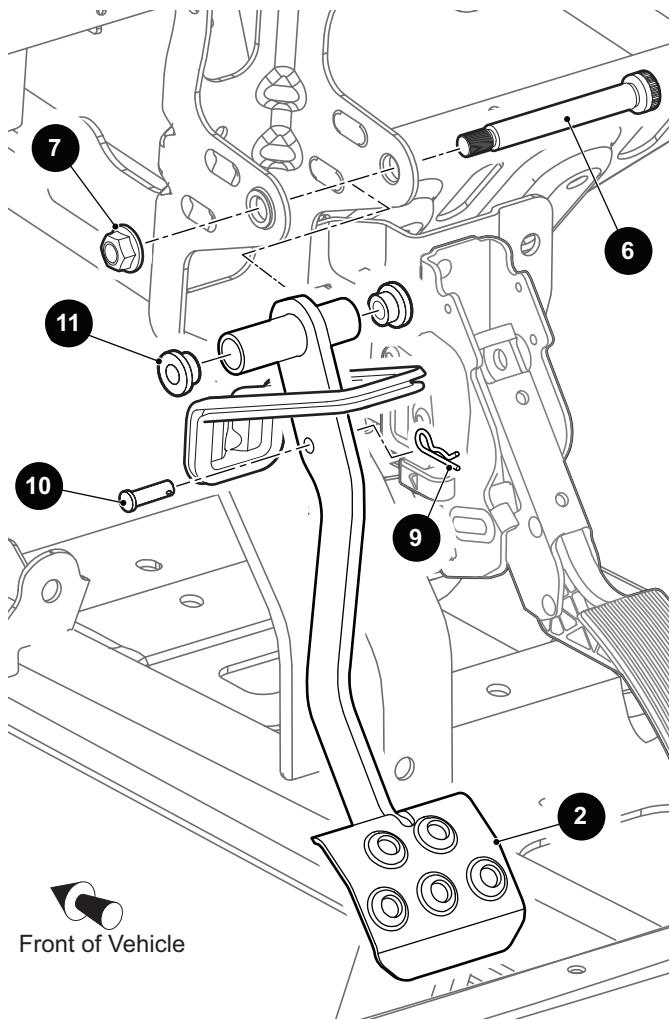

Fig. 10 Brake Pedal Removal
2. Remove pivot bolt (6), bushings (11) and lock nut (7) (Ref. Fig. 10).
5. Tighten bolt (6) and nut (5) to the torque specified below.